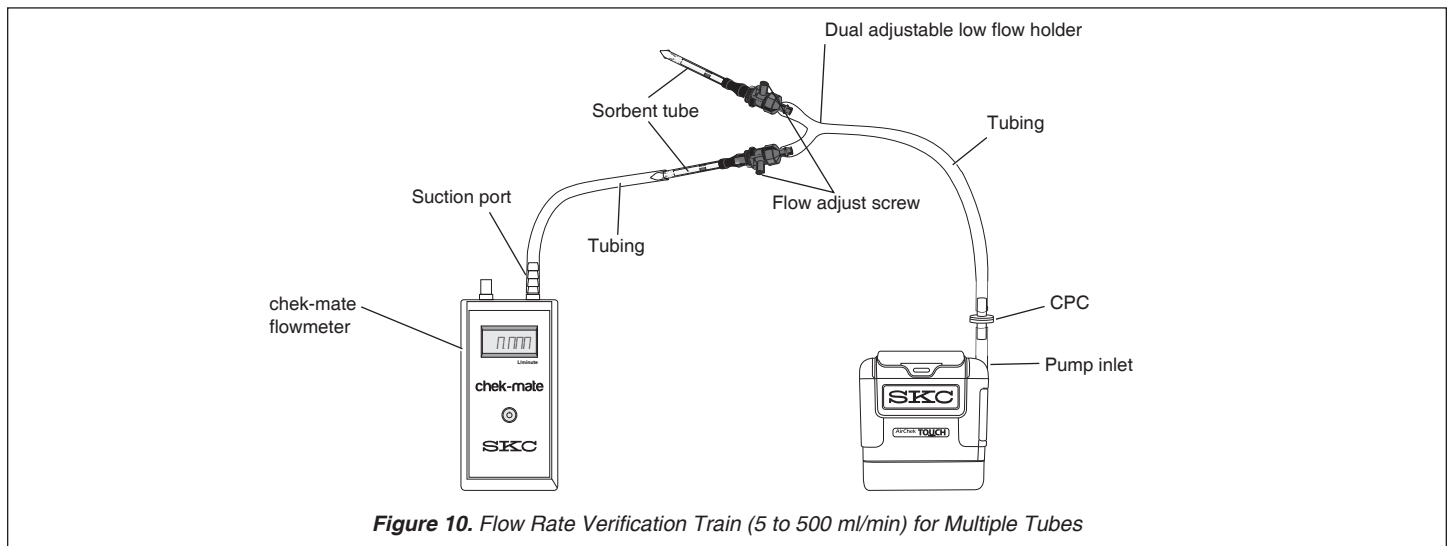

Figure 10. Flow Rate Verification Train (5 to 500 ml/min) for Multiple Tubes
1. On the tube holder, insert an opened representative tube (arrow on tube pointing toward the pump) into the rubber sleeve of a port. Repeat for the desired number of tube samples. See Figure 10.